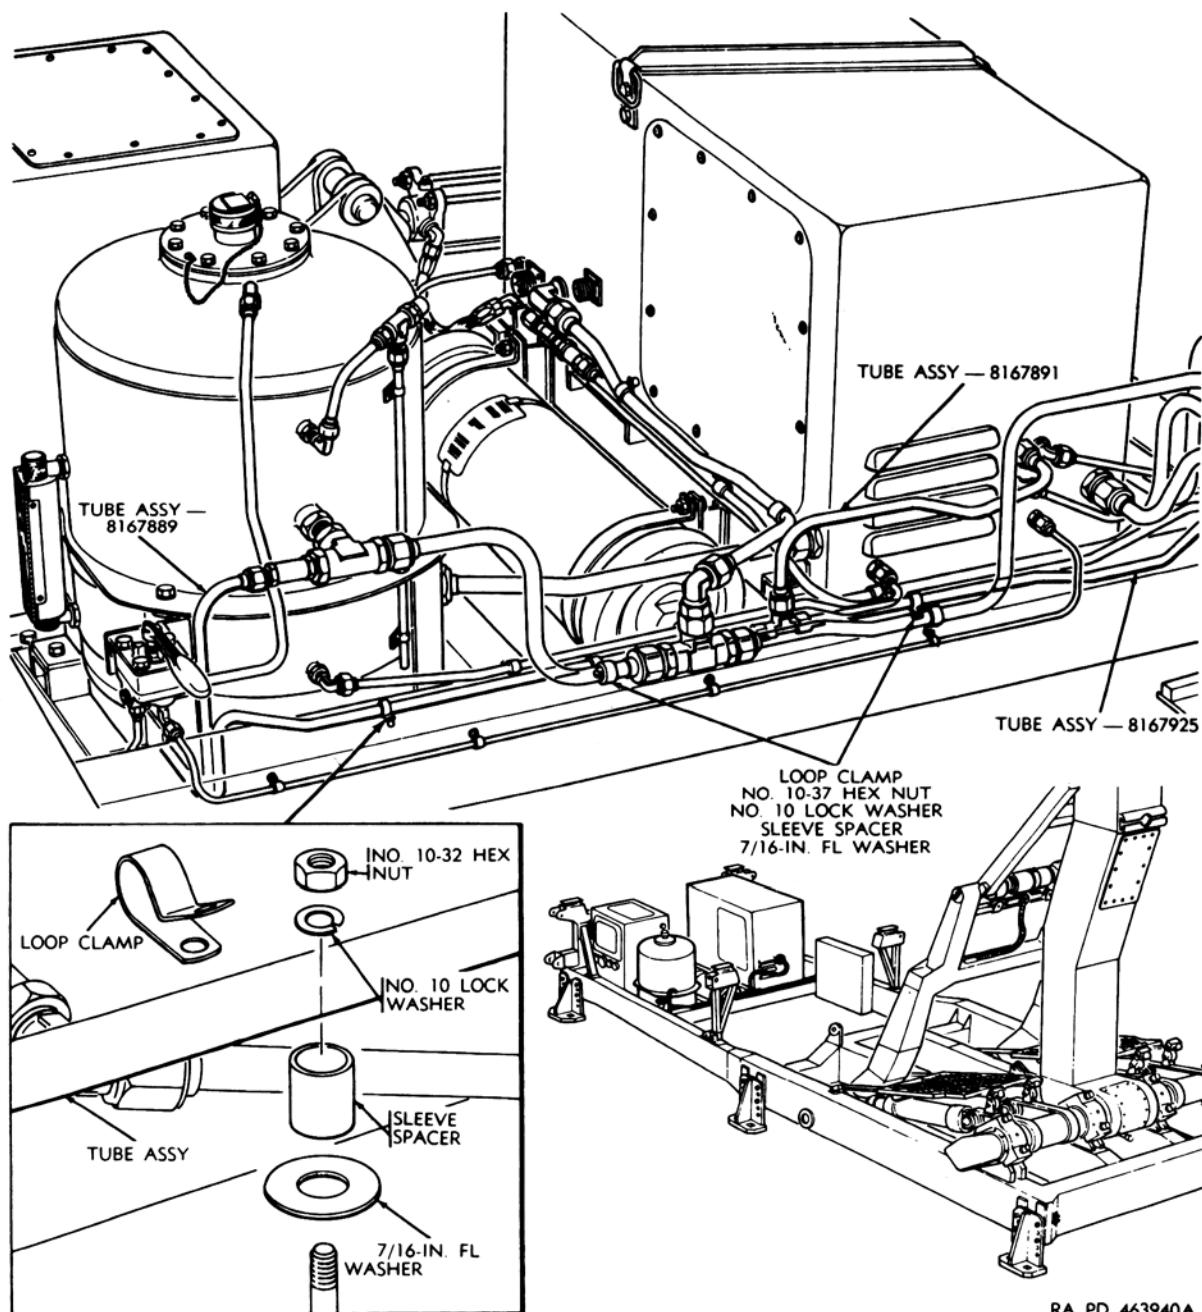

Figure 206. Missile hydraulic system network—removal and installation—continued.
- (3) Depressurize the hydraulic oil reservoir by turning the handle of the plug cock to the VENT position and holding until all pressure is discharged.
- (4) Remove loop clamps (fig. 206) and sleeve spacers.
- (5) Remove the tube assemblies to be replaced and cap all open lines.